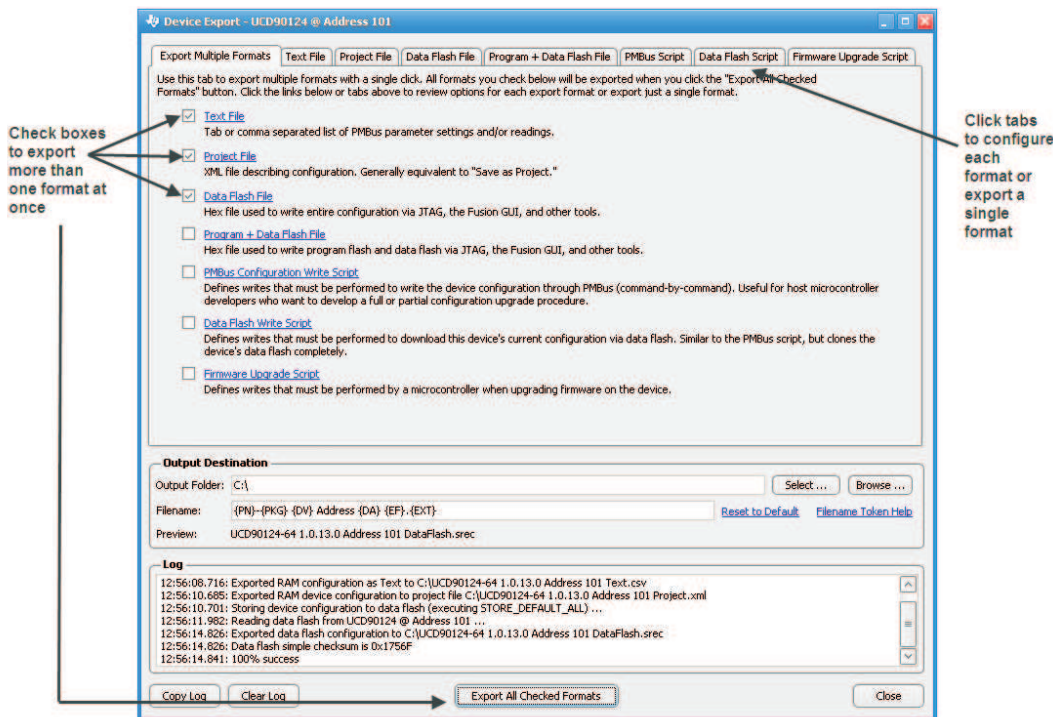

Figure 28. Fusion GUI Device Configuration Export Tool
- Another in-circuit programming option is for the *Fusion GUI* to create a data flash image from the configuration file (Figure 28). The configuration files can be exported in Intel Hex, Serial Vector Format (SVF) and S-record. The image file can be downloaded into the device using I2C or JTAG. The *Fusion GUI* tools can be used on-board if the *Fusion GUI* can gain ownership of the target board I2C bus. It is recommended to use Intel Hex file or data flash script file for production programming because the GPIOs are under controlled states.